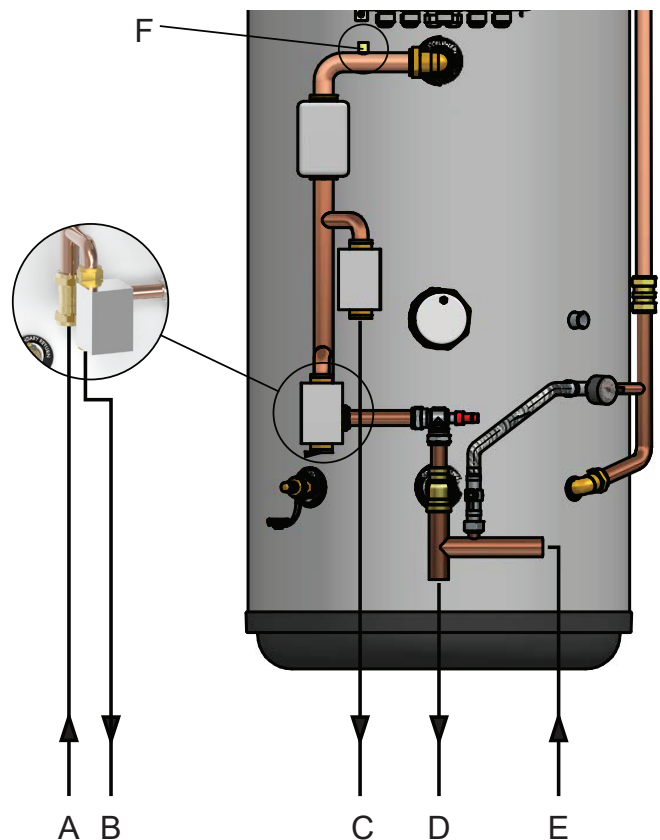

Figure 3-1: Primary circuit connections
Make the primary circuit and heat pump connections to the cylinder as follows (Refer to Figure 3-1):
1. The primary flow and return connections from the heat pump should be made to cylinder connections A and D respectively (refer to Figure 3-1 and Table 3-1).
2. The primary flow to heating zone 1 should be made to cylinder connection C (refer to Figure 3-1 and Table 3-1).
3. The primary flow to heating zone 2 should be made to cylinder connection B (refer to Figure 3-1 and Table 3-1).
4. When filling the primary circuit, the manual air vent situated on the flow from the heat pump can be used to vent air from the indirect coil (refer to item F in Figure 3-1 and Table 3-1).
To prevent gravity circulation when the heat pump switches off, three 2-port motorised valves have been supplied fitted to the cylinder after the primary flow pipe from the ASHP (Refer to Figure 3-1). They should be wired in accordance with Figures 5-3 and 5-4 to ensure that, when used with a Grant Aerona Heat Pump, the installation will comply with current legislation.
Table 3-1: Key to Figure 3-1